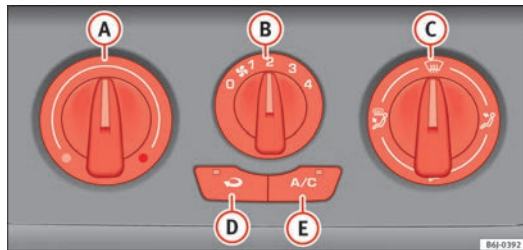

Fig. 109 Air conditioning controls on the dash panel.
- Disconnect the cooling system using button ⇒ Fig. 109 **A/C** (the button light turns off).
Air recirculation mode → Fig. 109  (a lamp lights up on the button) prevents strong odours or contaminated air from the outside air from entering in the vehicle, for example when passing through a tunnel or in a traffic jam.